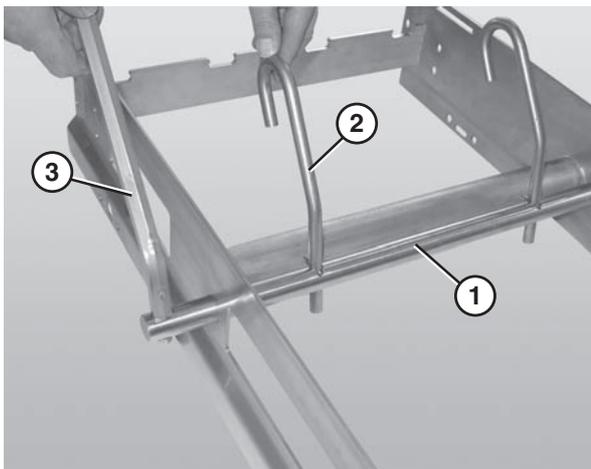

Figure 14
1. Slide the belt lift pivot bar (Figure 14, item 1) through the designated holes in the frame.
2. Attach the lifter bars (Figure 14, item 2) to the belt lift pivot bar (Figure 14, item 1). Make sure the hooked ends of the lifter bars are facing down when resting against the frame.
3. Attach the lifter handle (Figure 14, item 3) to the belt lift pivot rod.